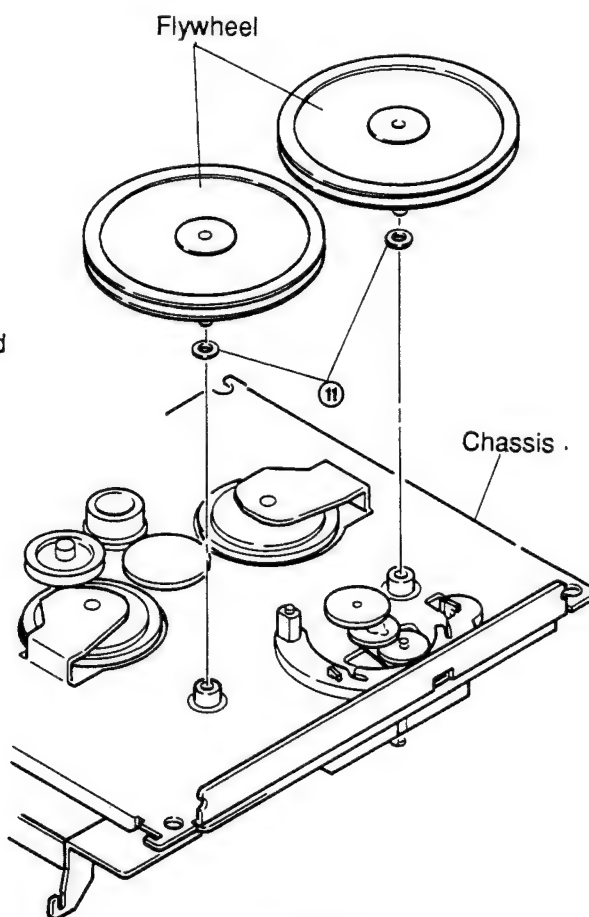

Figure 12
- (1) After removing the belt, pull out the two flywheels. Take care not to lose the polyslider washer (11) located between the flywheel and the chassis. (Refer to Figure 12.)
- (2) Fix the polyslider washer to the new flywheel and mount the flywheel to the chassis.